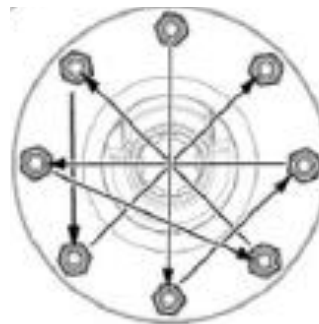

Figure 72
9. When tightening the bolts use a crossing pattern. Figure 72
10. Once the clutch is burnished tighten the bolts in the same crossing pattern until the dimension of between the spring and plate is reached at each bolt location, Figure 72. Tighten the bolts 2 flats and then go to the next bolt.